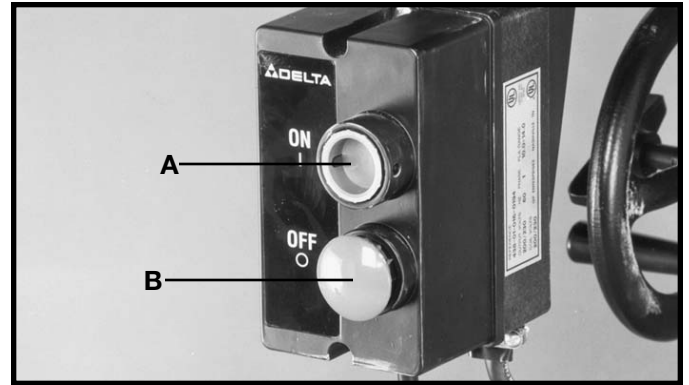

Fig. 106
To apply power to the machine, push “ON” button (A) Fig. 106. To stop the machine, push “OFF” button (B).